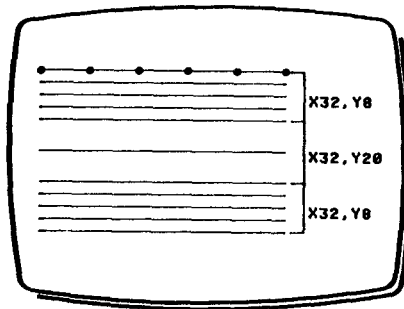

Fig 1
- 4 Draw five equally spaced lines near the top of the Work Page, as in Fig 1.